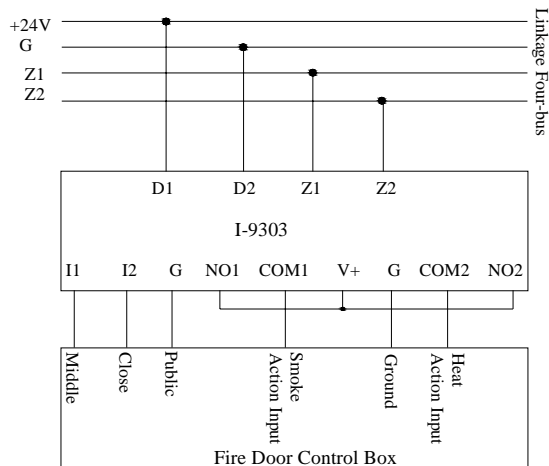

Fig. 5 Connecting with fire door control box
- ✧ The connection diagram between the module and fire door control box is shown in Fig. 5.